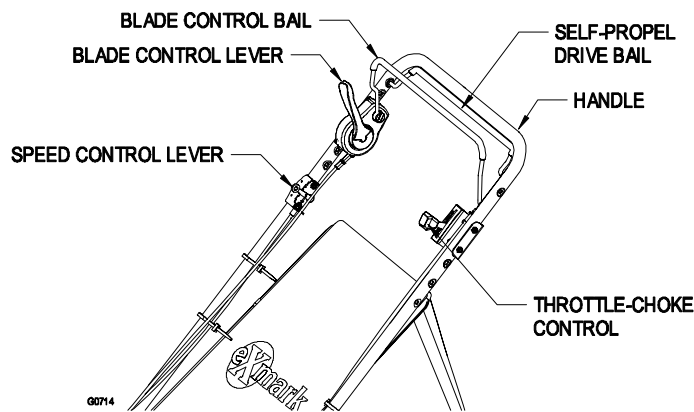

FIGURE 1
Located on the upper handle as shown in Figure 1. ***When the blade control bail is depressed, the system senses that the operator is in the normal operator's position.***
Located on the upper handle as shown in Figure 1. When the self-propel drive bail is squeezed, the unit will move forward at the speed set on the speed control lever. When this bail is released the unit will stop moving.
The throttle-choke control is located on the left side of the handles as shown in Figure 1. The lever is used to control engine speed. Moving the lever to the full forward **N (Choke)** position will place the lever in the choke position. The choke aids in starting a cold engine. Moving the throttle control forward will increase engine speed and moving it to the rear will decrease engine speed.
The blade control lever is located on the right side of the handle next to the Blade Control Bail as shown in Figure 1. Moving the blade control lever into the full forward position while depressing the blade control bail engages the blade. Releasing the blade control bail automatically disengages the blades.
The ground speed control is located on the right side of the handles below the blade engagement lever as shown in Figure 1. The ground speed control has three settings which control the ground speed of the mower.
The lawn mower has three ground speeds. **1** is slow, **2** is medium, and **3** is fast (See Figure 1 for speed control lever location).
- c) Squeeze the drive bail against the handle (See Figure 1).
- b) Squeeze the blade control bail against the handle (Figure 1).
- c) Move the blade control lever to the full forward **Latch** position. Blades should engage (Figure 1).